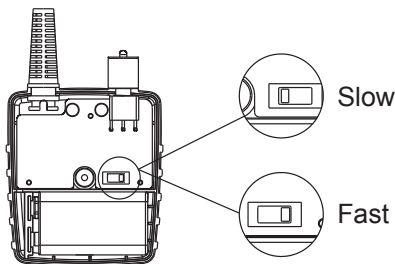

Figure 3
b. A fast dual alternating tone, or a slow dual alternating tone can be selected from the switch inside the tone generator. (See figure 3)